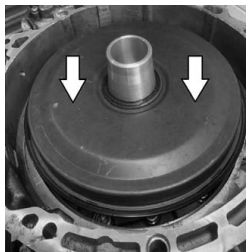

Fig. 3
- Turn the outer cover upside down and fit it onto the cone (4) (see fig. 3).